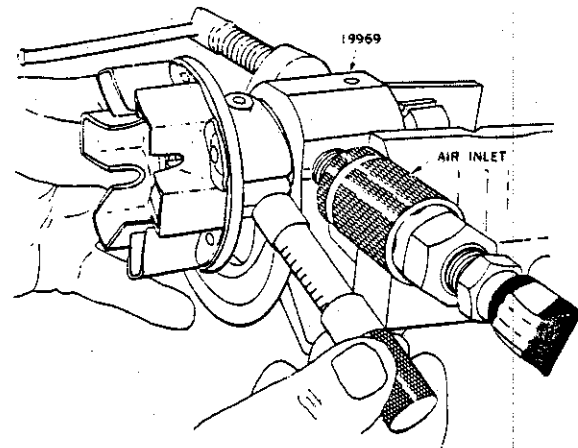

Figure 6-15. Roller-to-Roller Adjustment
4. Remove the rotor from holding fixture and submerge in clean diesel fuel. Install plungers (119) into rotor bores and check for free movement. Assemble shims (110), leaf spring (108) and screws (109) to the rotor. Assemble roller shoes (112) and cam rollers (111). Install fixture No. 19969 in a vise, clamping on the flat so that air inlet hole is not covered by the vise. See figure 6-15. Assemble a 1/4-18